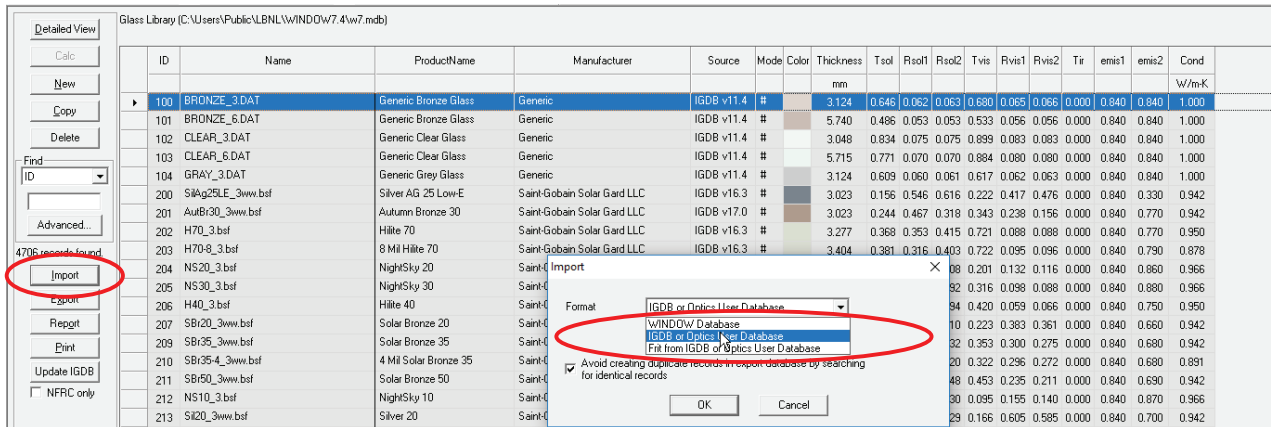

Figure 9-270: Import Glass from OPTICS User Database
- Choose your user defined OPTICS 6 \*.mdb database as shown in Figure 9-270.
- Click on the Import button and choose Format IGDB or Optics User Database (see Figure 9-270)